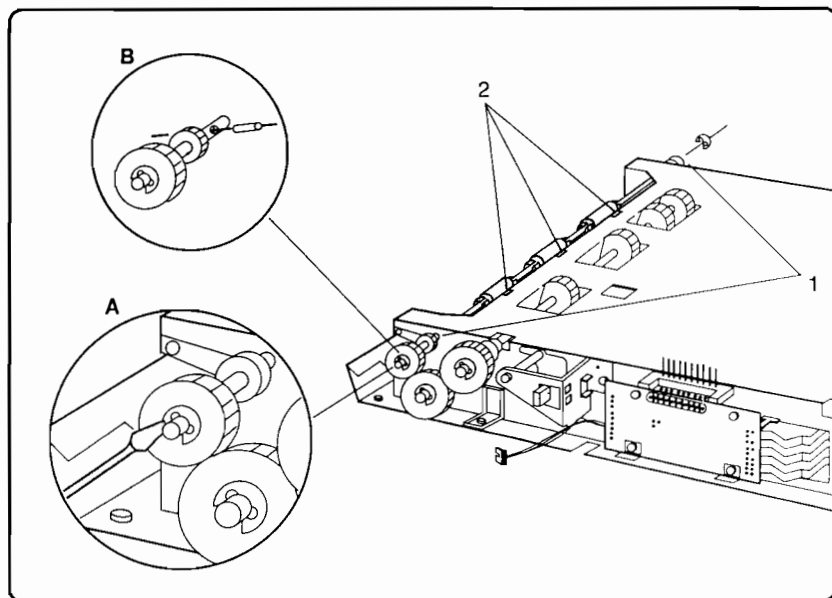

Figure 6-11. LC Feed Roller Assembly Removal
Before proceeding, note the way in which the black plastic Roller Guides attach to the LC Base plate (see Figure 6-11, callout 2).
4. Remove both E-clips on each end of the LC Feed Roller Assembly (see Figure 6-11, detail A).
5. Being careful not to lose the retaining pin, remove the Feed Roller Gears (2) and the retainer pin (see Figure 6-11, detail B).
6. Remove both brass bushings (see Figure 6-11, callout 1).
8. Remove the plastic Roller Guides (3) from the LC Feed Roller Assembly (see Figure 6-11, callout 2).
5. Remove the LC Feed Roller's E-clip, (2) Gears, and retainer pin (see Figure 6-11, details A and B).